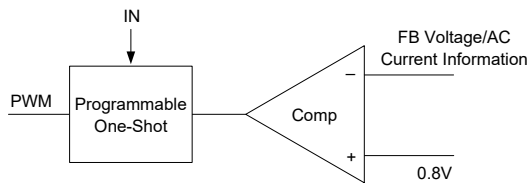

Figure 4. Simplified Control Schematic of AOZ2151PQI-03
The simplified control schematic is shown in Figure 4. The high-side switch on-time is determined solely by a one-shot whose pulse width is inversely proportional to input voltage (IN). The one-shot is triggered when the internal 0.8V is higher than the combined information of FB voltage and the AC current information of inductor, which is processed and obtained through the sensed lower-side MOSFET current once it turns-on. The added AC current information can help the stability of constant-on time control even with pure ceramic output capacitors, which have very low ESR. The AC current information has no DC offset, which does not cause offset with output load change, which is fundamentally different from other  $V^2$  constant-on time control schemes.